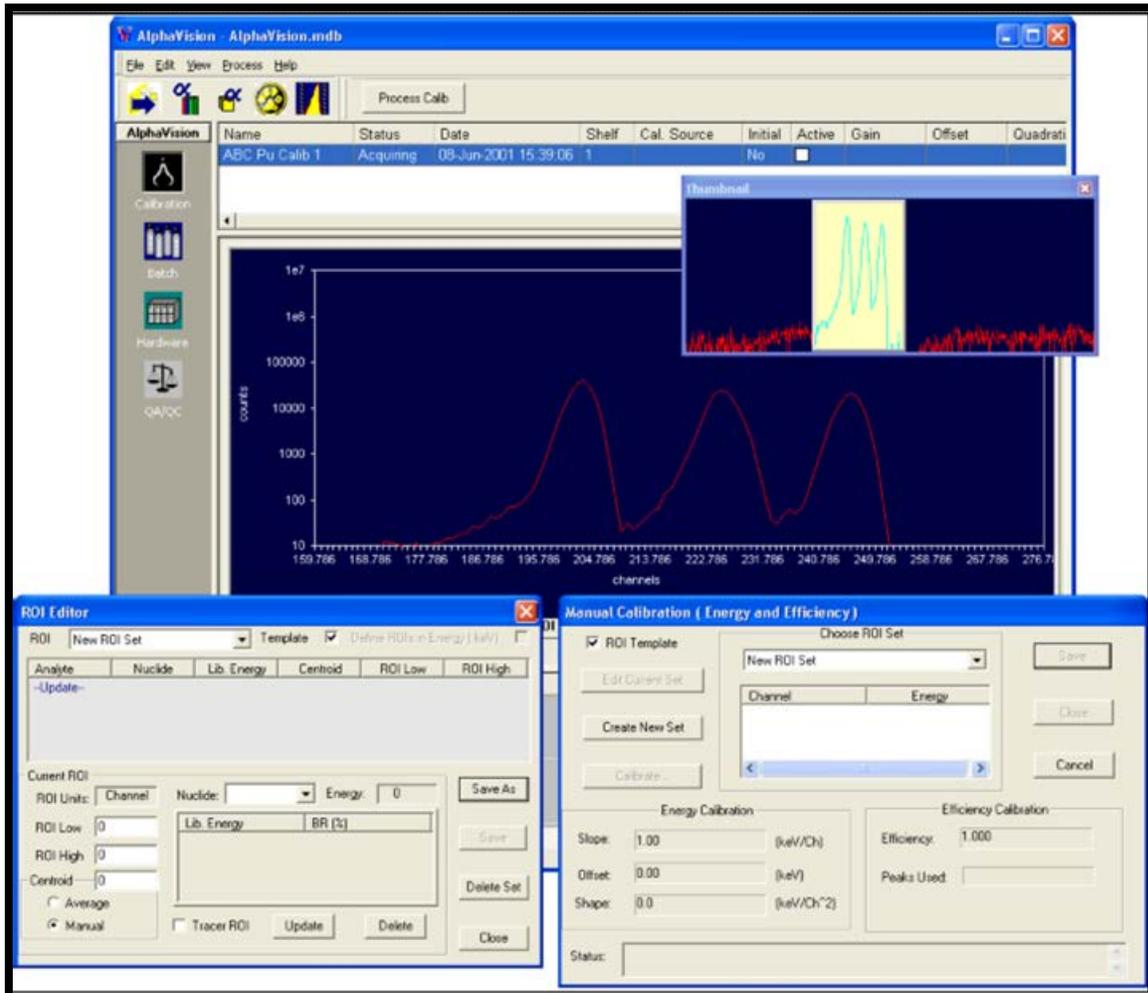

Figure 84. Zoom In on the ROI Peaks
- 5) Next, zoom in on the lowest-energy peak(s) to be included in the ROI Set. Right-click in the Spectrum Window and select **Show Thumbnail** (Figure 83), then click and drag the mouse diagonally across the section of spectrum to be expanded. The spectrum window will zoom in and the Thumbnail will highlight the zoomed section of spectrum, as shown in Figure 84.